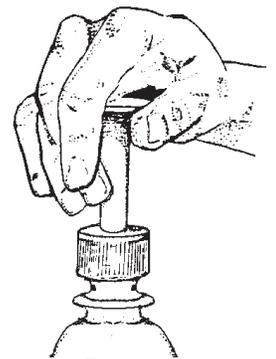

Figure 4
1. **Optional:** Pressurize the rocket body by pumping up the plastic bottle. Ask your instructor for the "fizz keeper" type bottle pressurizer (Figure 4). This ensures a rigid body surface while working on the rocket.